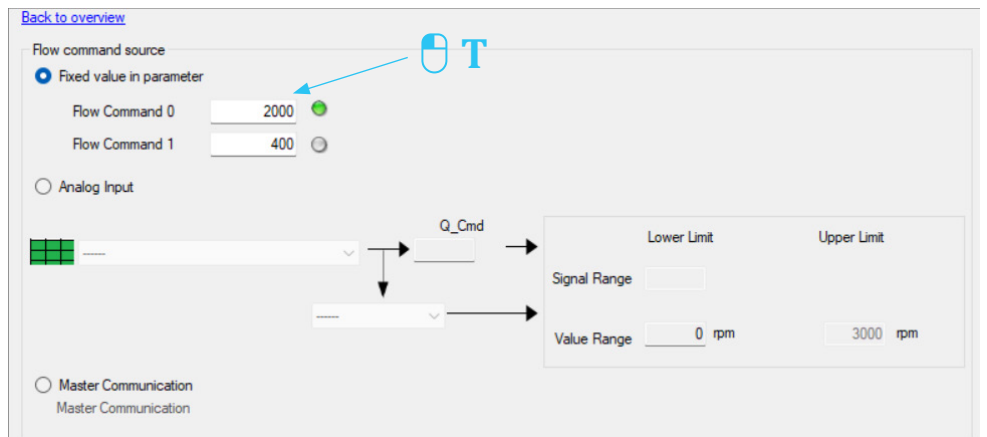

Fig. 30: Flow command value fixed 2/2
2. Enter the desired flow command value in the field below "Fixed value in parameter" (see Fig. 30: Flow command value fixed 2/2).